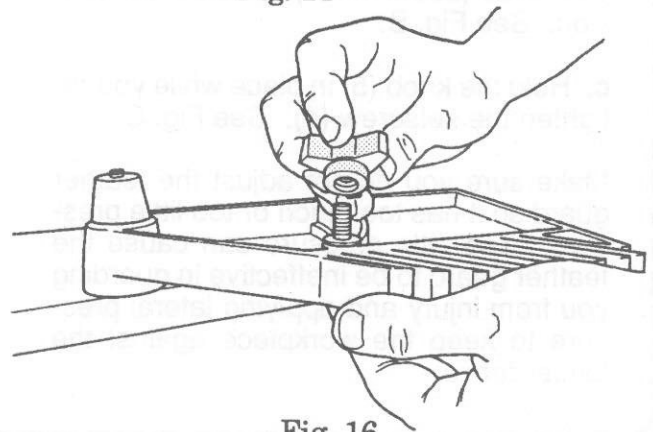

Fig. 16
25. Attach the stop pin to the feather guard (14) with a washer (12) and knob (15), as shown in Fig. 16.